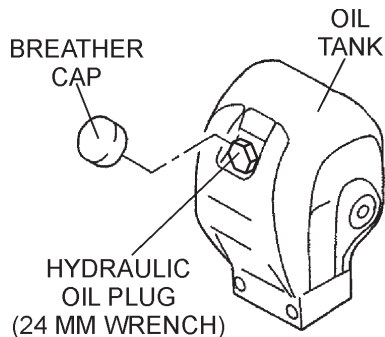

**Figure 32. Hydraulic Oil Cylinder/Hose**
- Disconnect the hydraulic hose (Figure 32) connected to the hydraulic oil cylinder.